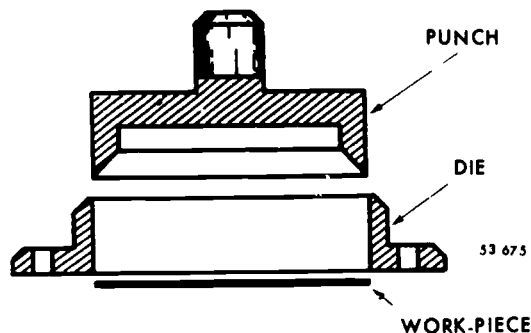

Figure 1-21 Blanking die
**Blanking.** Blanking is the operation of cutting out a part with a punch and die. The material used is termed the "stock." During the working stroke, the punch goes through the material. After the material is cut, it drops through the die, and the punch returns to its original position. Figure 1-21 illustrates the action of a blanking die. The work is fed by hand or by some type of feed device. Stop pins are usually used to gage the stock, so that maximum stock is used.